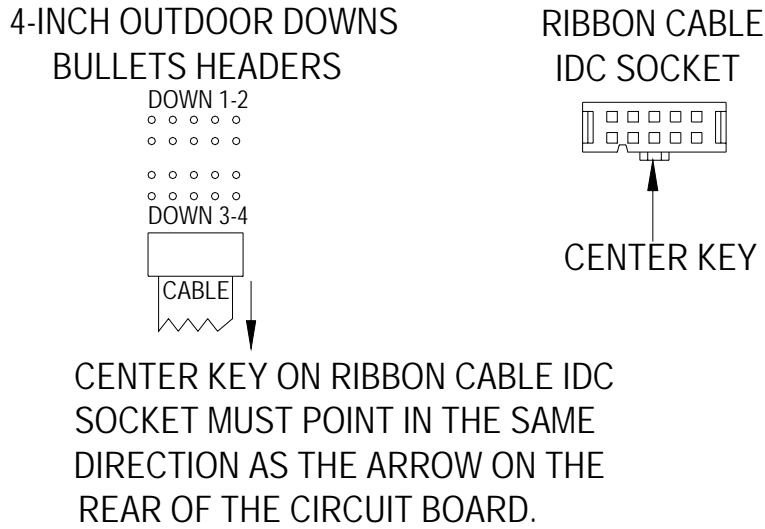

Figure 15 Down Indicators Ribbon Cable Connection Diagram
8. The circuit board used for the DOWN indicators has two headers. Refer to figure 15 in order to plug the ribbon cable IDC connector onto the correct header on the circuit board in the proper orientation.